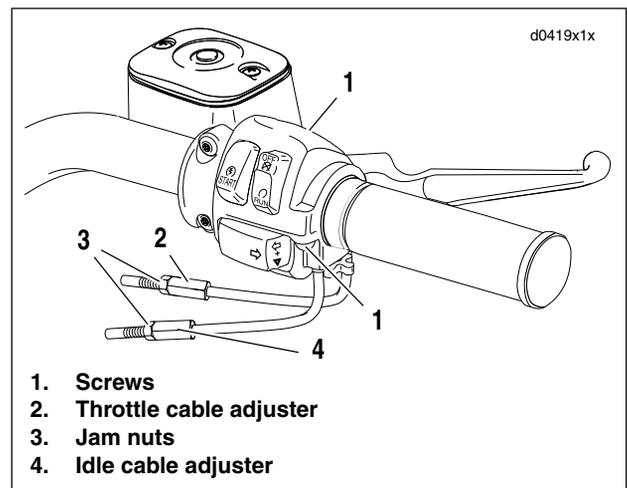

Figure 1-56. Throttle Cable Adjusters
1. See Figure 1-56. Turn the cable adjusters (2, 4) and jam nuts (3) as short as they will go.
2. Remove two screws (1) to separate the upper handlebar housing from the lower housing.
9. Assembling the handlebar housing and tighten both screws (1) to 4.0-5.1 Nm (35-45 **in-lbs**).
1. See Figure 1-56. Turn the cable adjusters (2, 4) and jam nuts (3) as short as they will go. Both cables should have zero adjustment at the start of this procedure.
- b. Turn the throttle cable adjuster (2), lengthening the sleeve, until the throttle cam just touches the cam stop.
- c. Tighten the throttle cable adjuster (2) an additional 2 to 3 full turns.
4. Turn the idle cable adjuster (4), lengthening the sleeve until the cable housing just touches the bottom of the pocket retainer on the throttle body linkage.